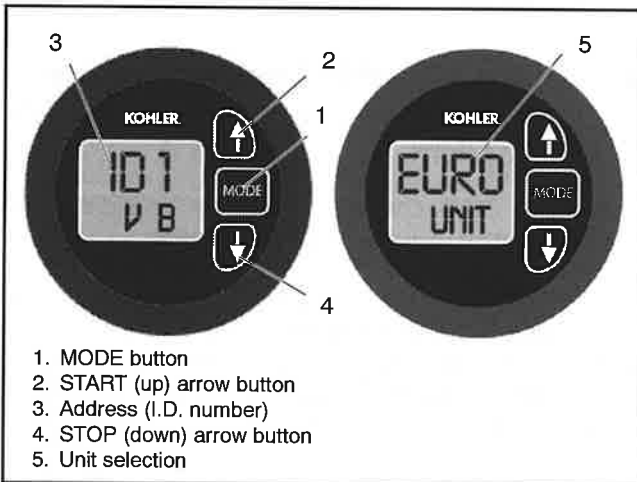

Figure 11 Configuration Menu Displays
1. Press and hold the **MODE** button for 5 seconds to enter the configuration menu. See Figure 11.
3. Use the **START** arrow (up) button ▲ or **STOP** arrow (down) button ▼ to select English or Metric units. See Figure 11.